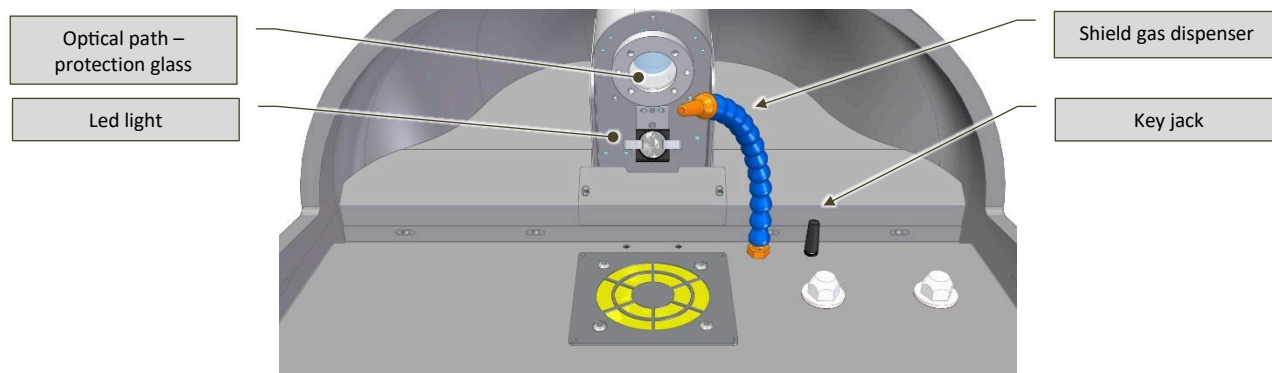

Fig. 7-8 – Optical path – view from welding chamber
- Laser radiation optical output channel, protected by a special protection glass featuring a fine crosshair aiming reticle (Fig. 7-8);
- Mobile shield gas dispenser with controller (Fig. 7-8);
This channel is closed by a protection glass (Fig. 7-8) which protects the optical path from fused particle projections which may take place during welding operations.